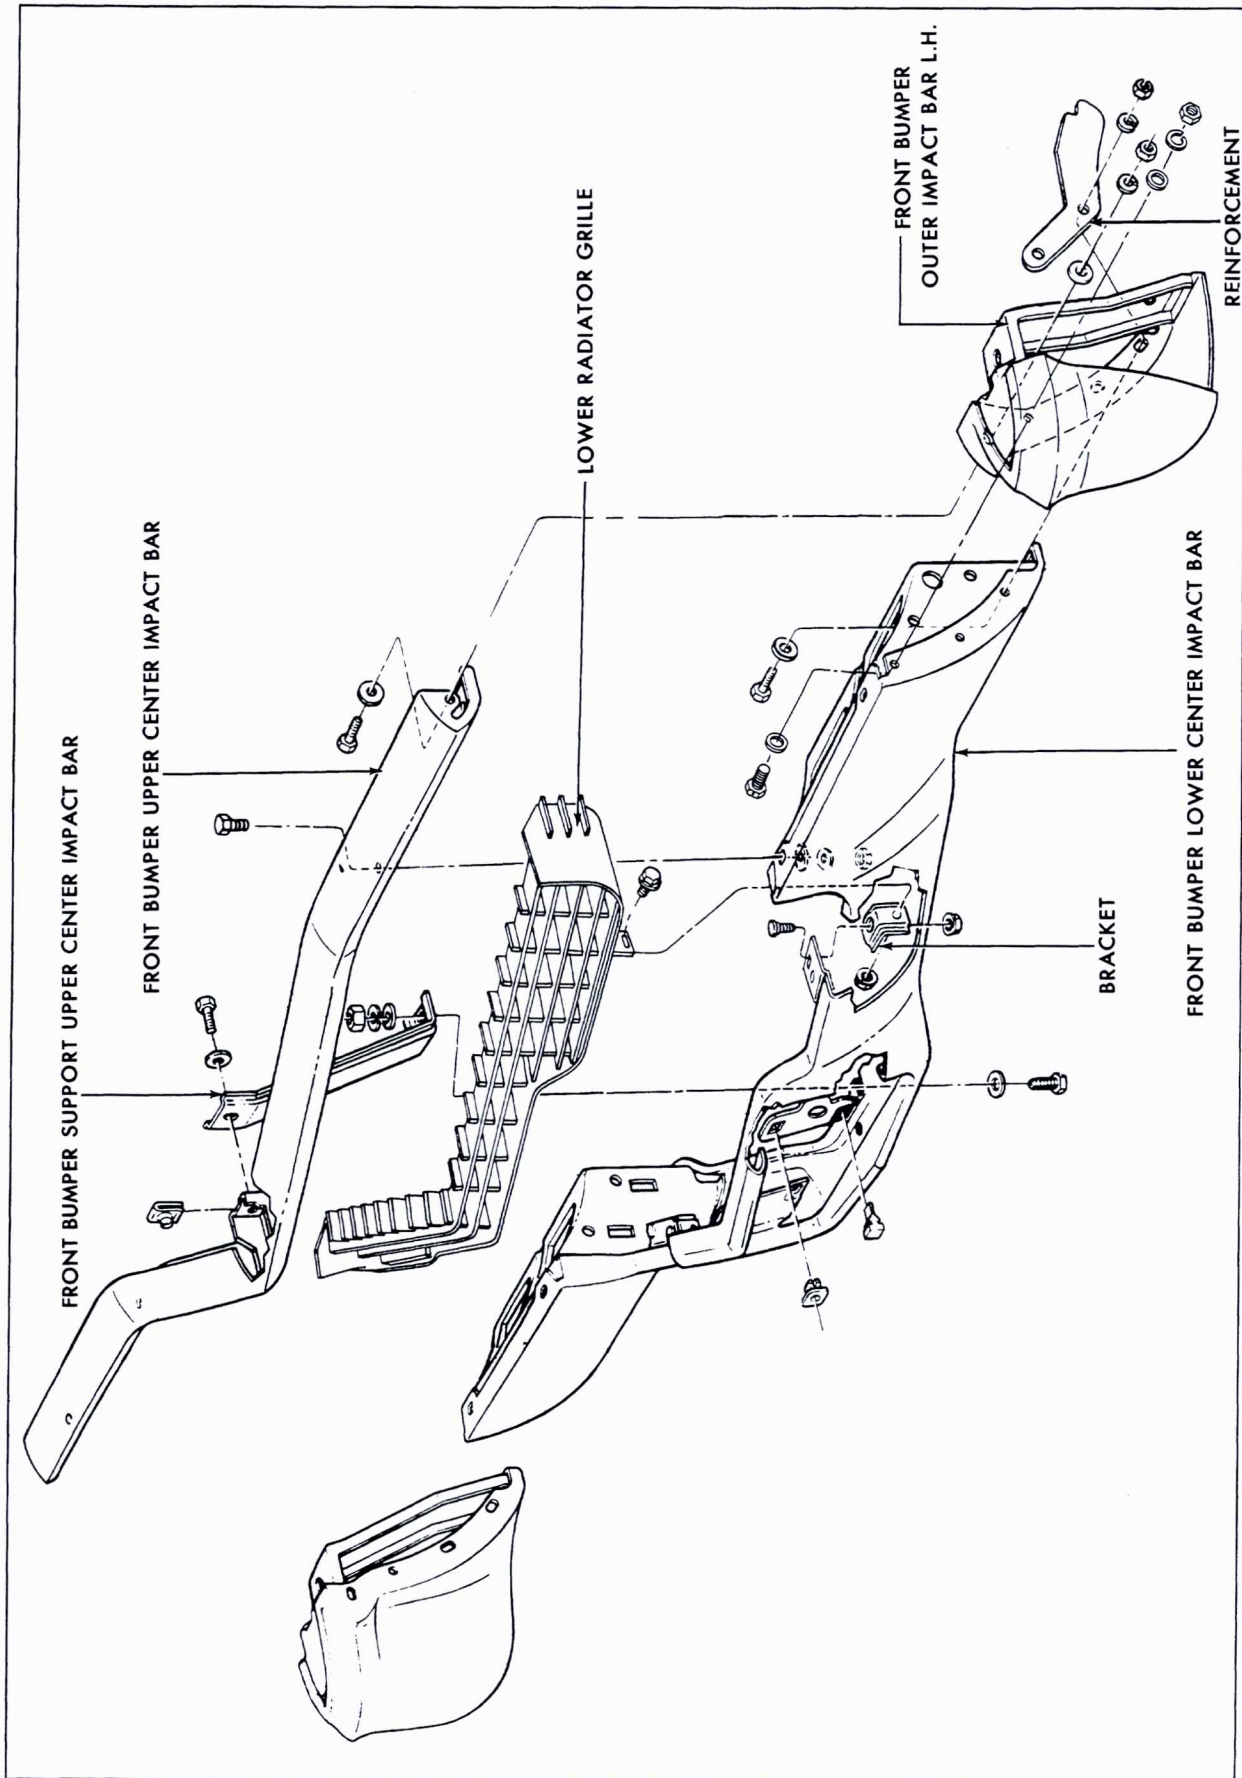

Fig. 14-6 Eldorado Front Bumper - Disassembled
a. Removal (Fig. 14-6)
b. Installation (Fig. 14-6)